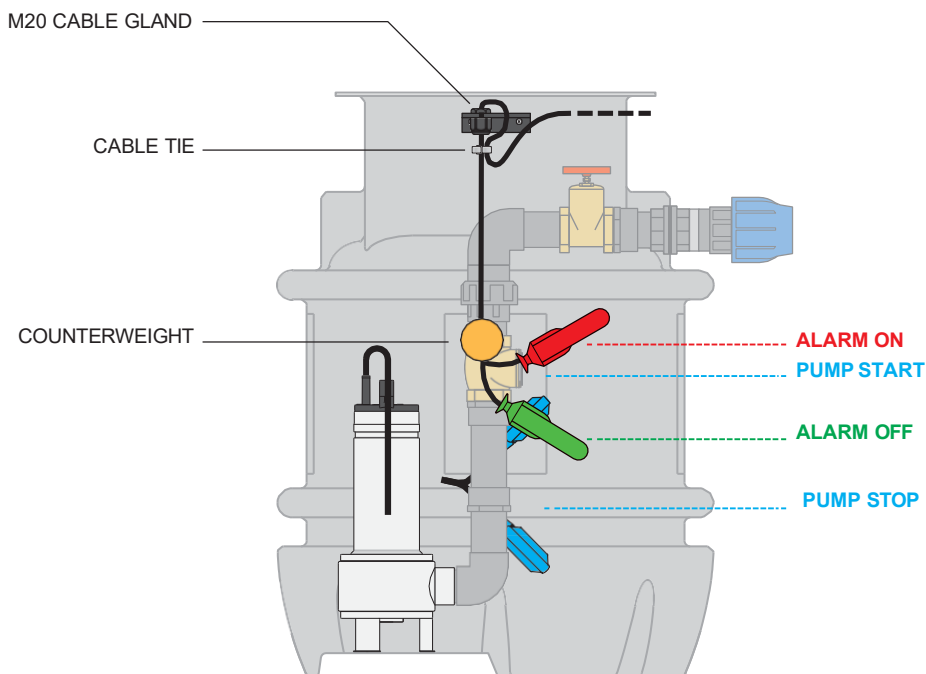
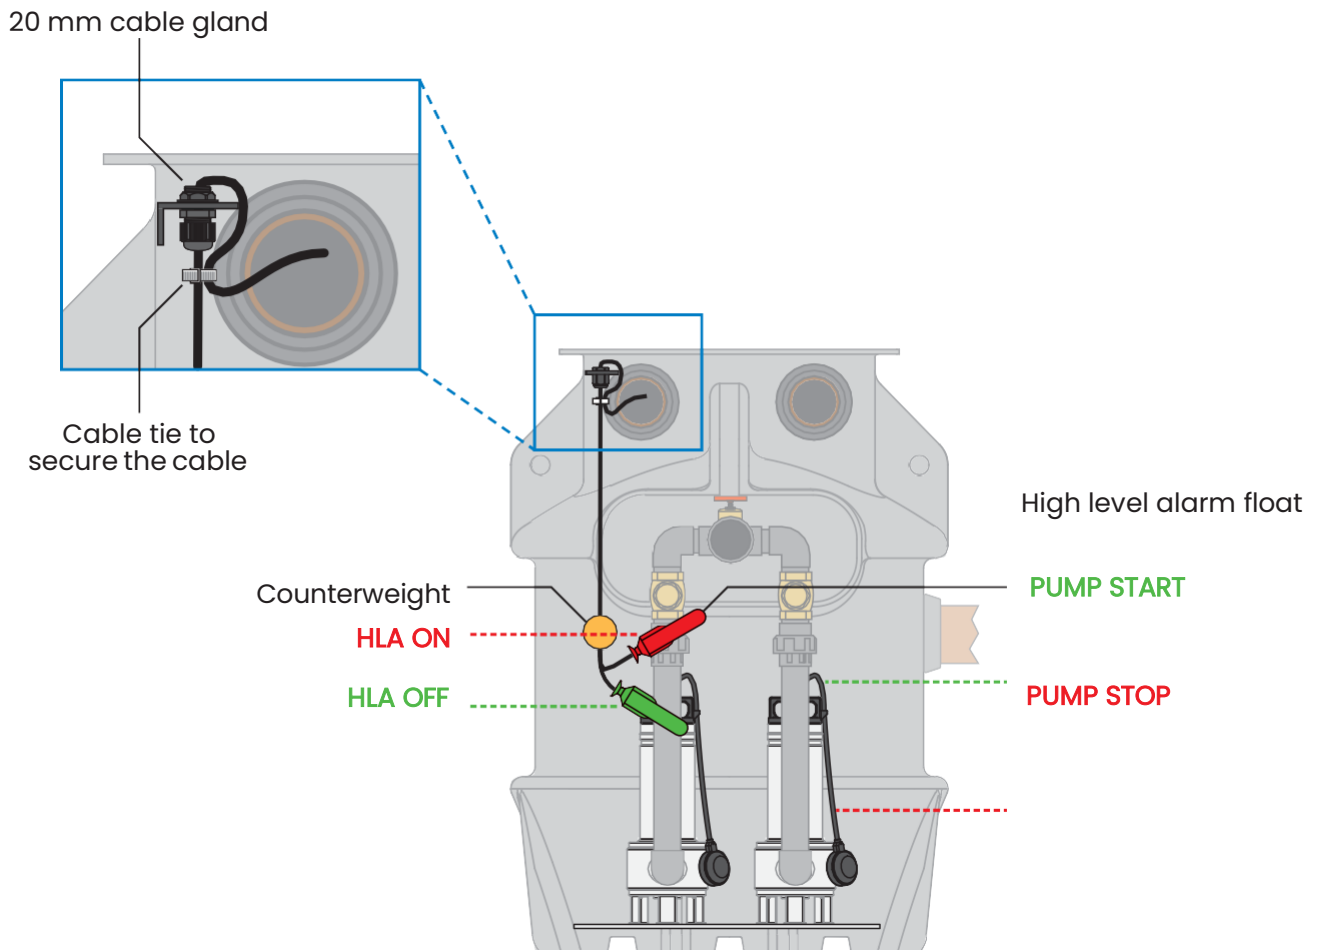

Figure 5. Mounting a sump float switch in a FoulMidi
Figure 6. Mounting the sump float in a FoulMax.
1. Please ensure you position the sump float switch higher than the primary pump activation point contained within, as shown in Figure 5. For the FoulMax refer to Figure 6.